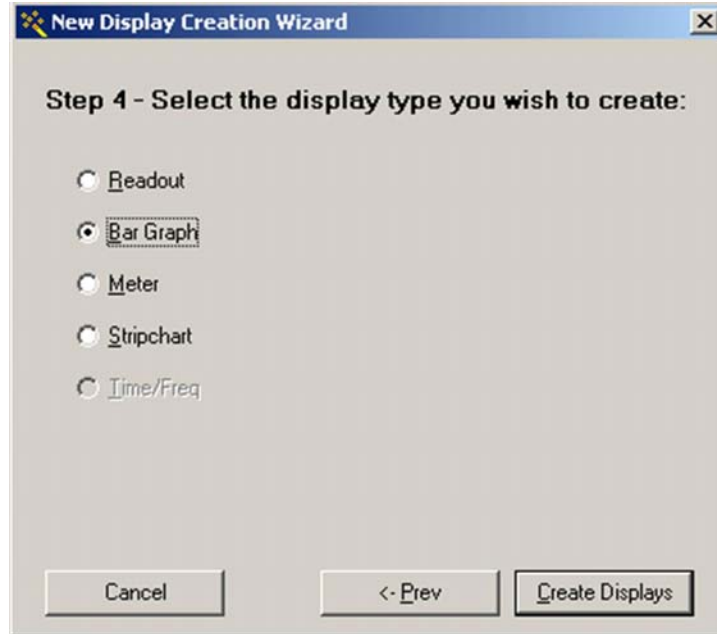

FIGURE 3-13: NEW DISPLAY CREATION WIZARD WINDOW – STEP 4
- 5) Select the type of graph and click the **Create Displays** button (see Figure 3-13).